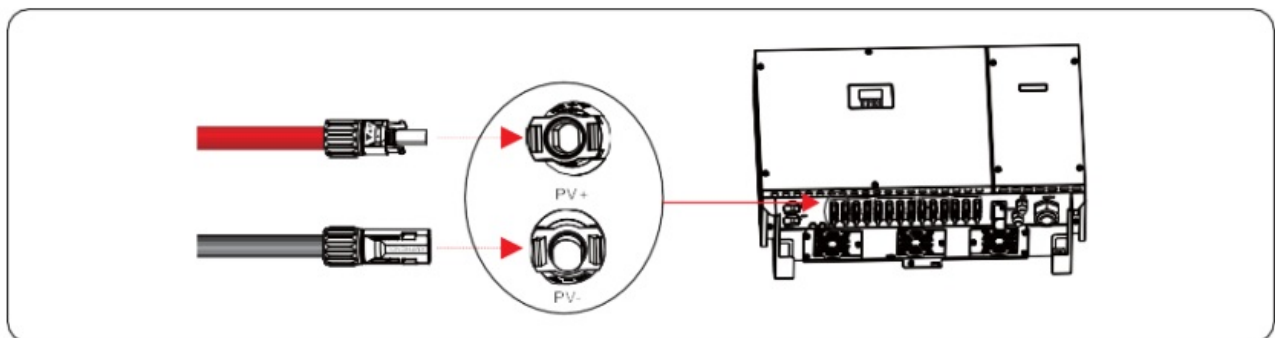

Figure 5.13 Connecting to the inverter
Step 6 Insert the positive and negative connectors into their corresponding terminals of the inverter until a “click” sound is heard, as shown in Figure 5.13.